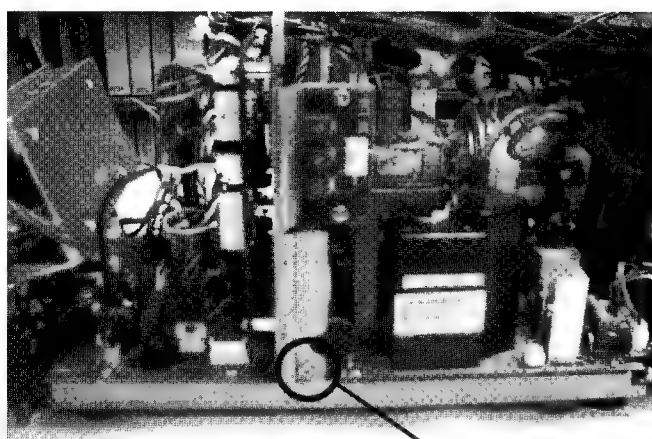

Fig.16
7. Take out 2 screws A of the middle bracket assembly (see Figs. 16 and 17).